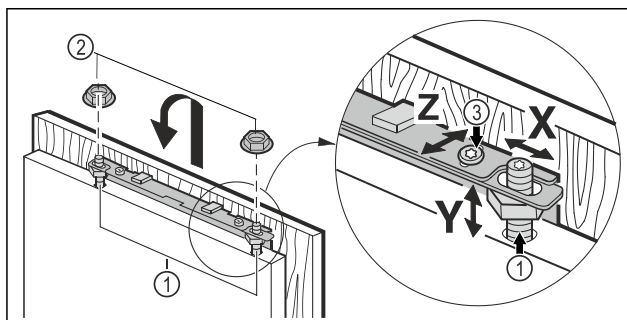

Fig. 45
- Hook the unit door onto the adjustment bolts Fig. 45 (1) and screw the lock nuts Fig. 45 (2) loosely onto the adjustment bolts.
- Align the unit door in height Y and in the lateral inclination: Adjust the adjustment bolt Fig. 45 (1) with a screwdriver.
- Tighten the lock nuts Fig. 45 (3).